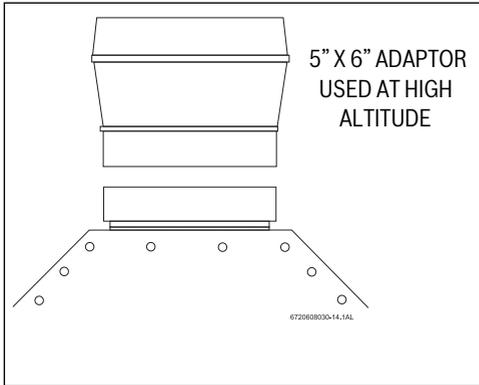

Fig. 10 Vent Adaptor for High Altitude Installations
- ▶ A 5 inch diameter gas vent constructed of double wall Type B gas vent is recommended. A 6 inch vent is required in elevations greater than 2000 feet, see Fig. 10 Under no circumstances must the vent pipe be reduced in size.